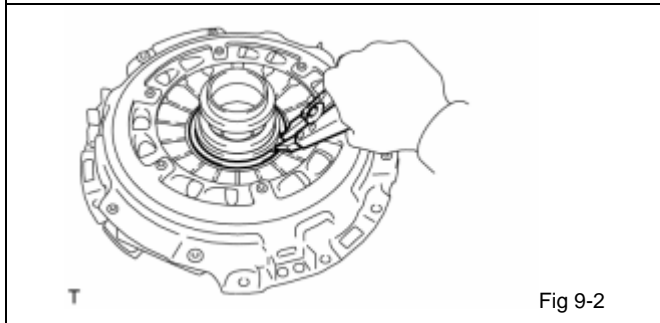

Fig 9-2
- (e) Install the snap ring to fasten the assembly in place. (Fig 9-2)